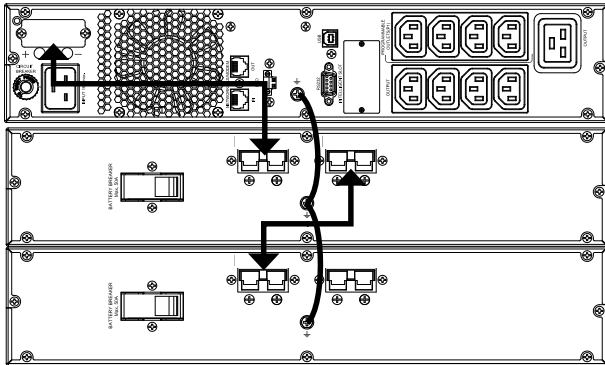

Fig. 9. Connection to battery modules.
- Connection of the battery module to the UPS is made by means of a cable featuring polarised connectors at both ends and supplied with the first one. Plug the connector at one end of the cable into the corresponding socket on the SPS.ADVANCE and the one on the other end into the battery module (see Fig. 9). In the same way, battery modules can be linked in parallel since each of them has two connectors. All of the connectors must be secured to their units by means of the screws that held the protective cover of each connector to the UPS or battery module.
-  As the device has Class I protection against electric shock, it is obligatory and essential to connect the earth conductor (). Connect the earth cable to the corresponding points identified, either terminal or screw (see Fig. 9). If the interconnection cable has a mesh, the earth connection will be linked between units through it by fixing the metal supports of the connectors to the UPS and battery module
- Fig. 9 shows the connection of a 3 kVA device in a rack arrangement with two battery modules. For a larger number, proceed in a manner similar to those shown in the illustration.